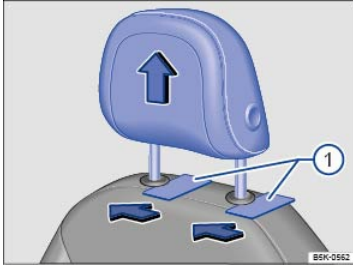

Fig. 84 Removing the front head restraints.
- Slide a flat object, such as a plastic credit card, underneath the right side of the cap (left side if sitting behind the head restraint) on the right-hand seat guide rod ⇒ Fig. 84 ① to unlock the head restraint.
- Push the head restraint down ⇒ Fig. 84.